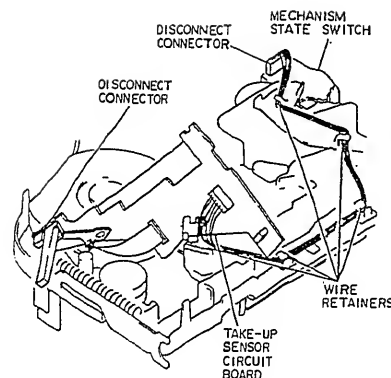

Fig. 2-63
4. Disconnect connector CN001 from the mechanism state switch and release the wires from the wire retainers. (See Fig. 2-63)